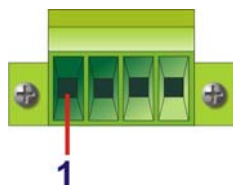

Figure 3-20: 4-pin Terminal Block Pinout Location
- CN Pinouts:** See Table 3-5 and Figure 3-20